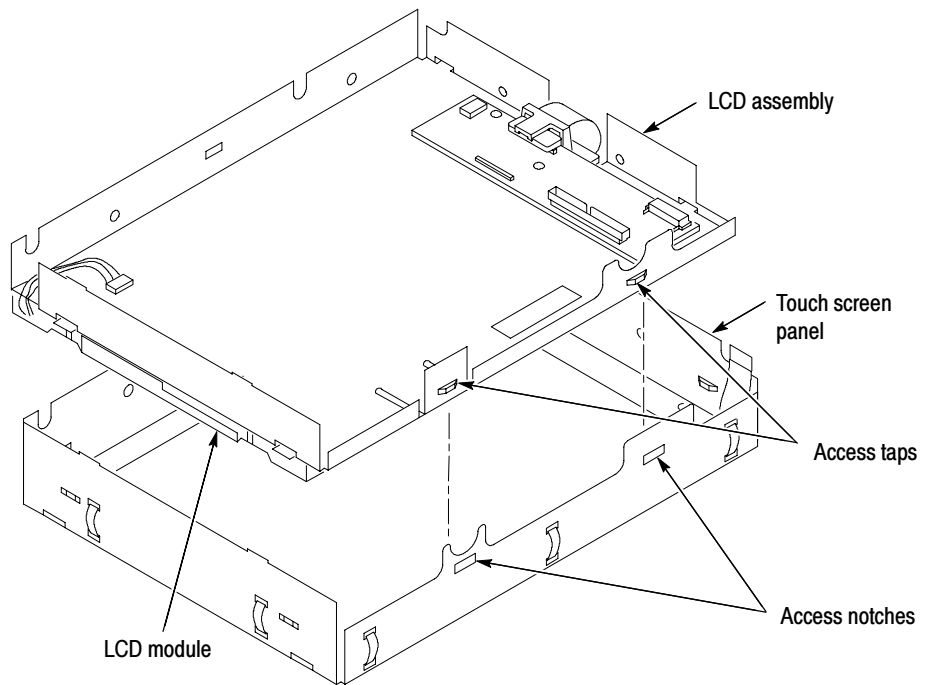

Figure 5: Remove/install the LCD assembly and touch screen panel
- a. Separate the display assembly by carefully prying the (outer) touch screen panel assembly from the (inner) LCD assembly. Insert a flat-bladed screwdriver in the access notches to push out on the Touch panel assembly. See Figure 5.